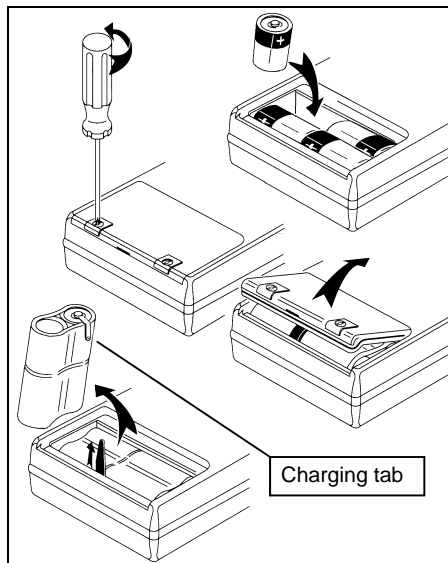

Figure 126 Replacing Batteries.
6. Insert new batteries or battery pack according to Figure 126.